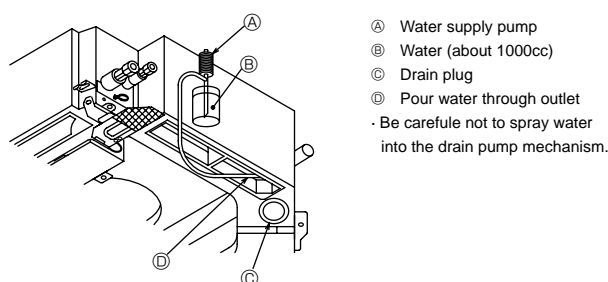

Fig. 6-2
6.3. Check of drainage (Fig. 6-2)